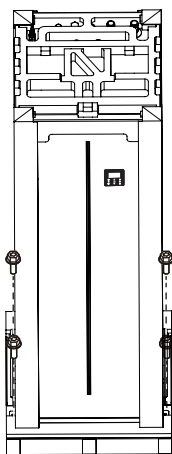

Fig.2-3
- Remove the 4 screws of the wooden base (Refer to Fig.2-3).